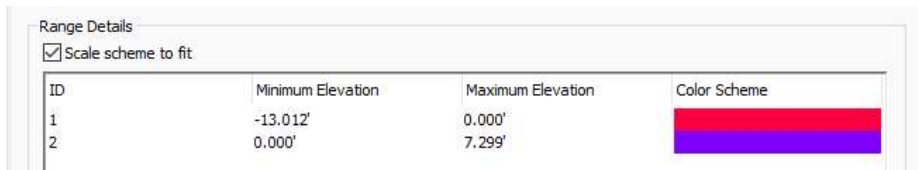

Figure 4-23 Partial view of the **Range Details** area for Elevation analysis with two bands
12. Set the value in the spinner located next to the **Create ranges by** drop-down list to **2** and choose the **Run analysis** button; the analysis is performed. The range details are displayed in the **Range Details** area, as shown in Figure 4-23. Choose the **Apply** button to apply the changes to the drawing.